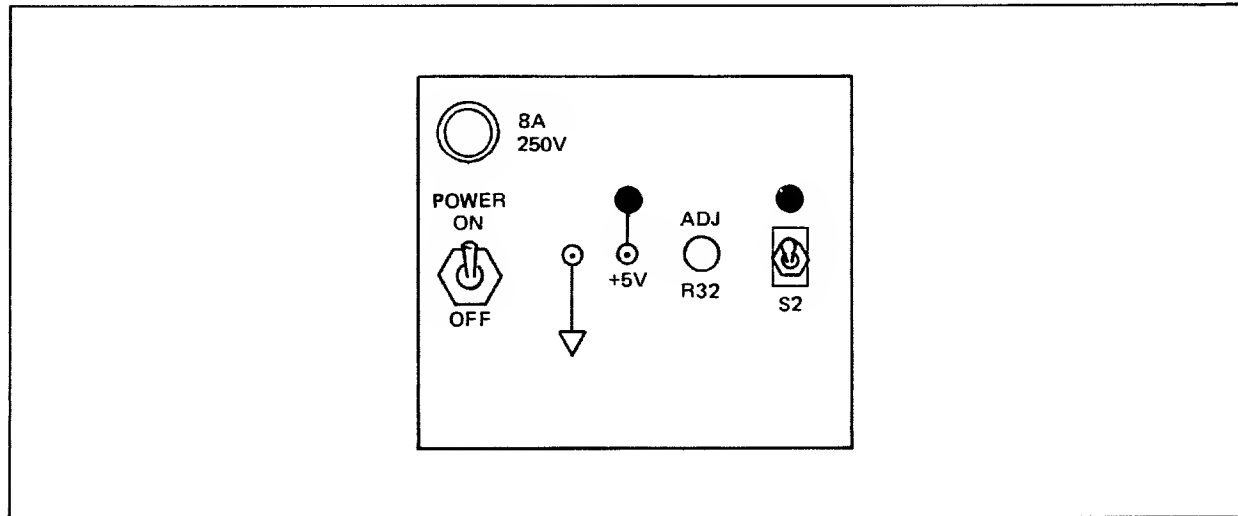

Figure 4-2. HP 30312A Power Supply Front Panel
3. Behind the front door of equipment bays, look for the small panel of an HP 30312A Power Supply (figure 4-2). For each HP 30312A Power Supply in the system, perform these steps: